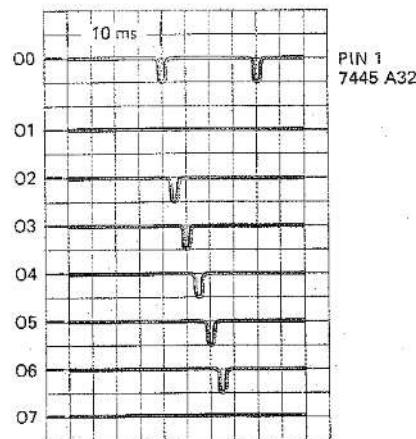

FIGURE 26-2.
6. See Figure 26-2 on the next page.